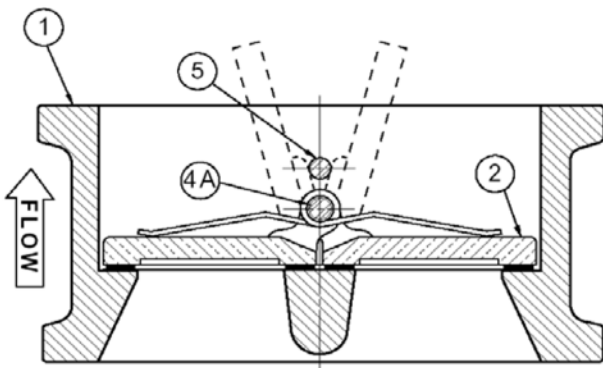

FIGURE 3. DD PLUS CHECK VALVE
The standard check valve body (1) is constructed of cast iron. See the specific Materials List submitted for the order if other than standard iron construction. The internal metal components are bronze or stainless steel. The discs (2) and torsion spring (3A and 3B) are the only moving parts and require no maintenance or lubrication. The general details of construction are illustrated in Figure 3.